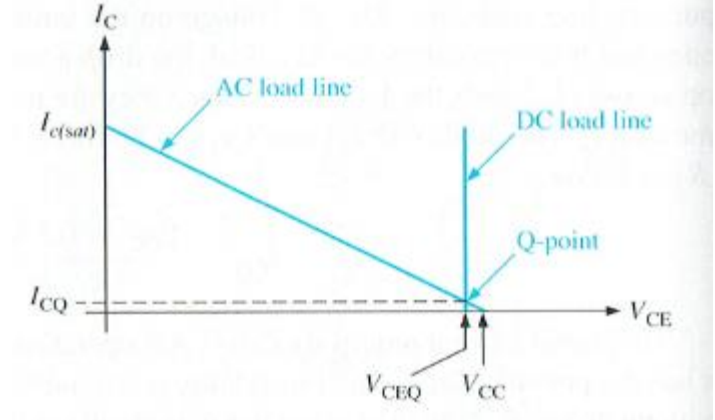

FIGURE 5-33 Load lines for a complementary symmetry push-pull amplifier. Only the load lines for the npn transistor are shown.
- De AC-belastingslijn is weergegeven in fig. 5-33